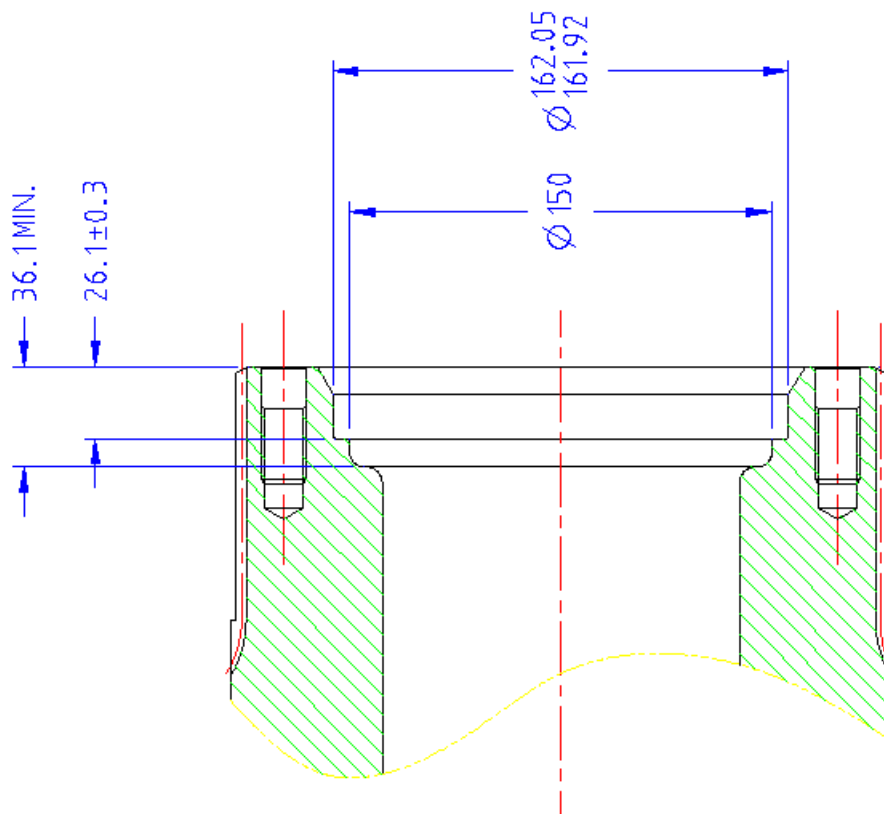

FIGURE 1.
2. Ensure that the bore in the spindle end has been machined as per Figure 1 on the following page. In addition, ensure that the bore in the spindle end is clean and free from damage, sharp edges or burrs.